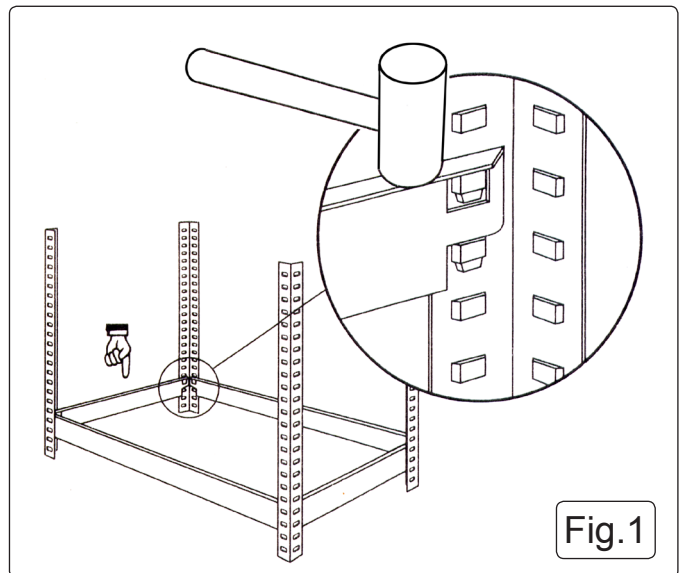

Fig.1
- 4.2 See Fig.1. Decide on the position/height of the bottom shelf. Make an end frame by fitting 1 short shelf support between 2 leg angle sections. Make a second end frame ensuring that the shelf support is at the same height as the first end frame. Join the two end frames together using 2 long shelf supports fixed at the same height as the short shelf supports.
- 4.1 Assemble the frame using a soft faced hammer or mallet as shown in Fig.1. If only a hard faced hammer is available hammer onto a piece of wood to avoid damaging the paint surface. Always hammer gently as close as possible to the uprights. Make sure that the shelf support tabs are in line with the leg angle slots. If the tabs and slots are not lining up do not